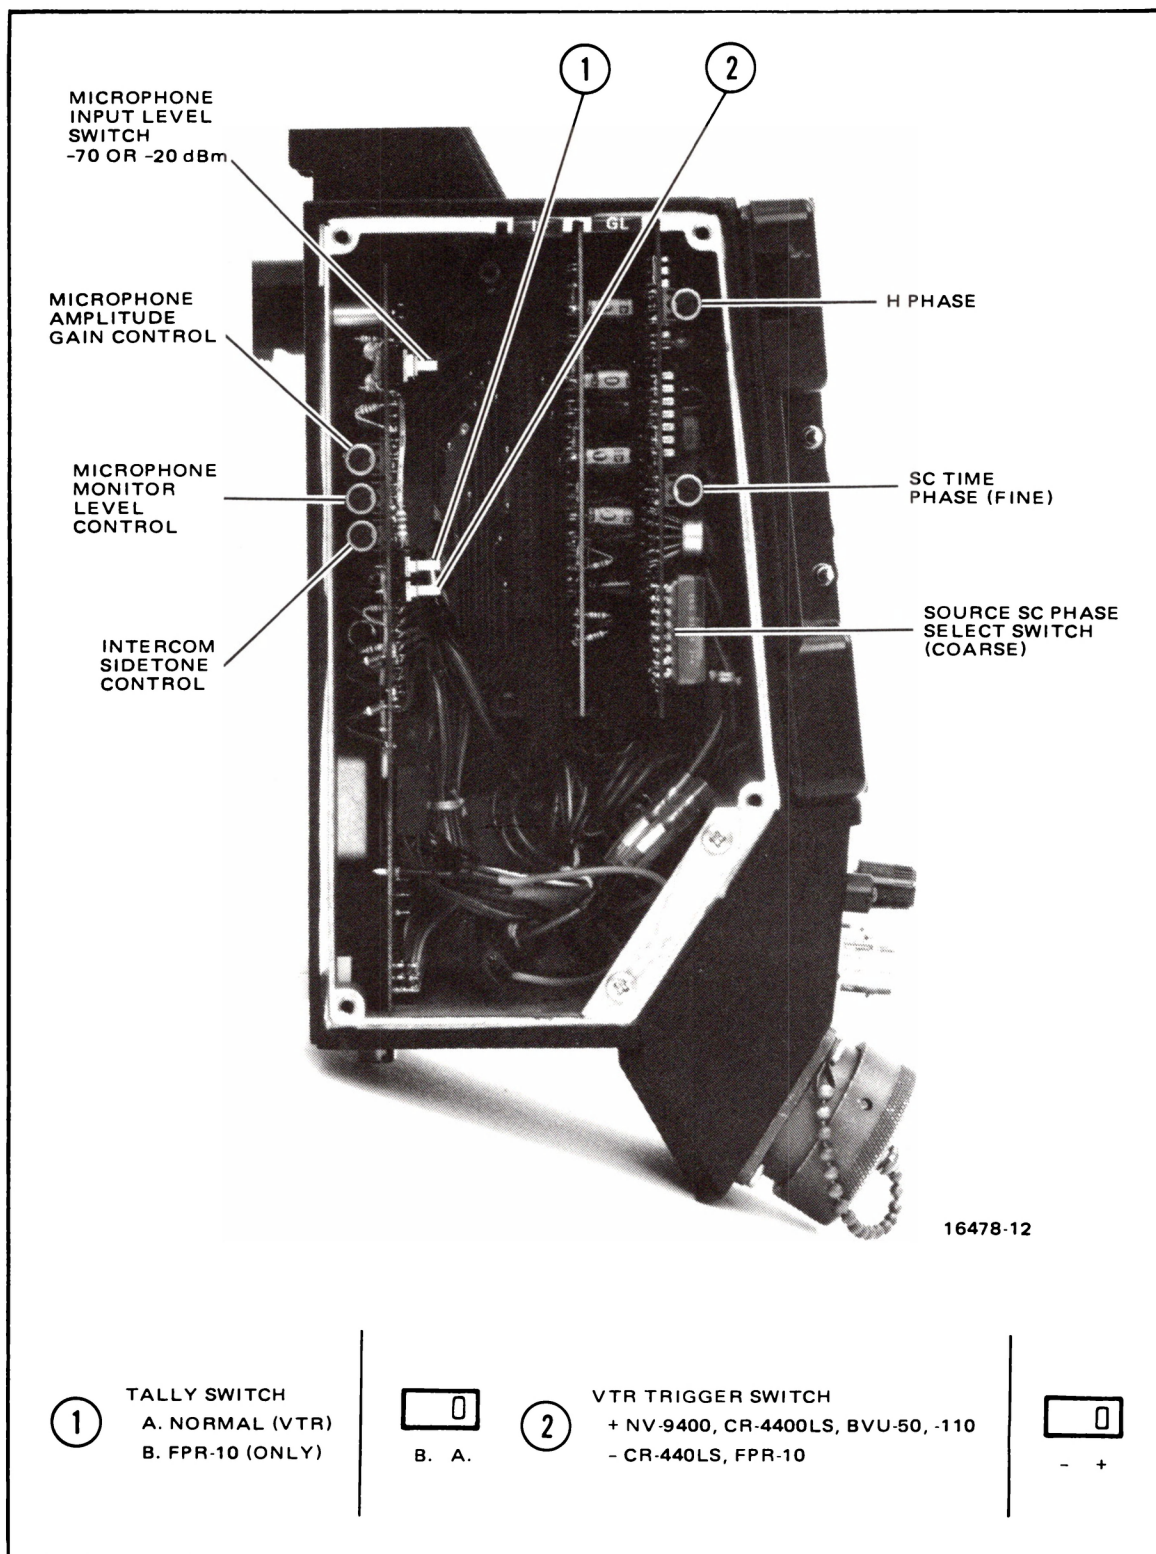

Figure 6-7. Adjustment Controls, Left Cover Panel Removed
- STEP 2 See Figure 6-7. On genlock adapter set VTR start/stop trigger pulse switch to "-" front position.
- STEP 3 See Figure 6-7. On genlock adapter set tally switch to front (FPR-10) position.
- STEP 2 See Figure 6-7. On genlock adapter set VTR start/stop trigger pulse switch to "+" (rear) position.
- STEP 3 See Figure 6-7. On genlock adapter, set tally switch to rear (on) position.
- STEP 2 See Figure 6-7. On genlock adapter set VTR start/stop trigger pulse switch to "+" (rear) position for VTR models NV9400 or CR4400LS. Set switch to "-" (front) position for VTR models CR4400 or CR4400L.
- STEP 3 See Figure 6-7. On genlock adapter set tally switch to rear (on) position.
- STEP 2 See Figure 6-7. On genlock adapter, set VTR start/stop trigger pulse switch to "+" (rear) position for Panasonic brands or to "-" (front) position for JVC brands.
- STEP 3 See Figure 6-7. On genlock adapter, set tally switch to ON.